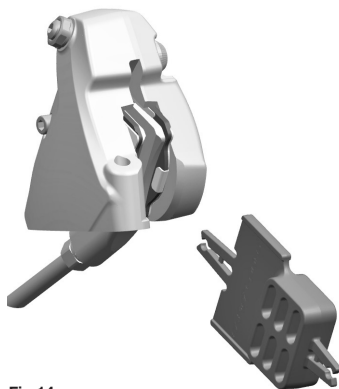
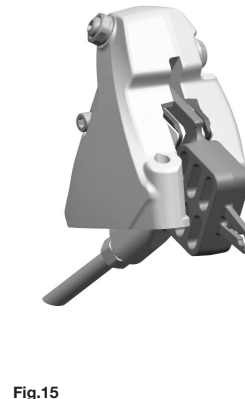

Fig.14
Fig.15
- If you need to remove the wheels from the bike, ensure that you have inserted the transport tool (**Fig. 14 / Fig. 15**) which prevents the brake pads from coming together if the brake lever is accidentally engaged, making it impossible to insert the disc.